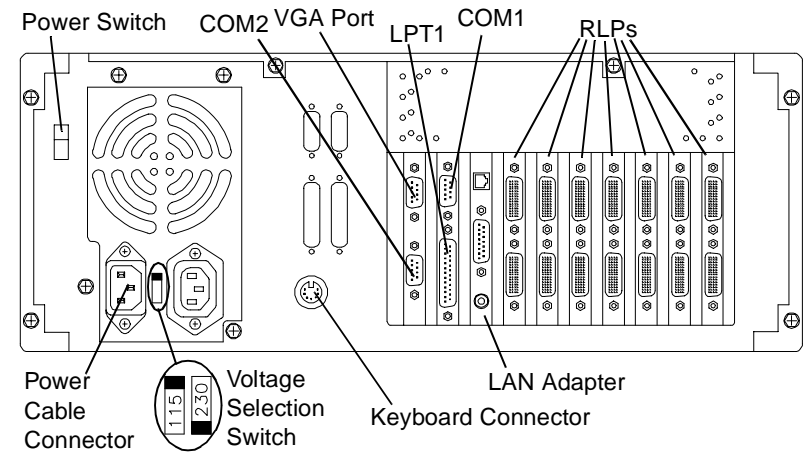
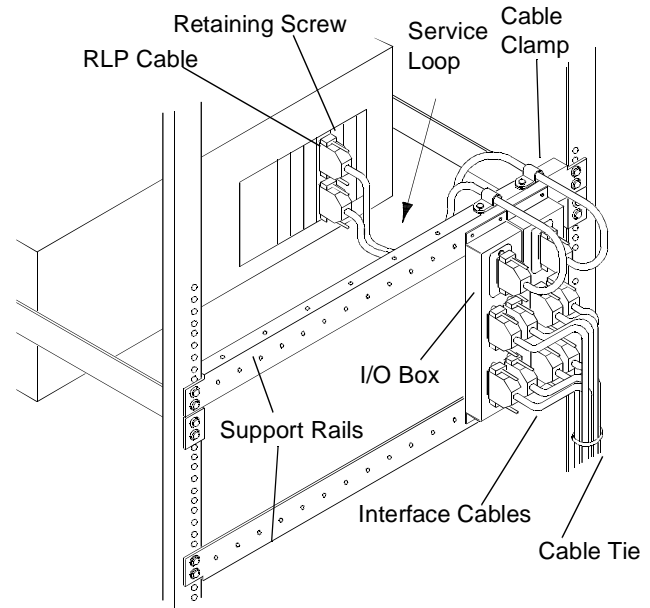

Figure 1 Rackmount Chassis, Rear View
Figure 3 Rack-Mounted I/O Boxes
2. Set up the equipment, noting the site requirements listed earlier in this chapter. Make sure the voltage selection switch (shown in Figure 1) is set correctly.
- Plug all cables into the appropriate connectors at the rear of the FRX6000, and tighten the retaining screws on each cable connector that has them. (It does not matter which end of an RLP cable plugs into the RLP.) Figure 1 shows the connectors on the rear of the chassis, and Figure 3 shows some cable retaining screws.
- Plug the RLP cables into their associated I/O boxes and tighten the retaining screws. If the assembly is being rack mounted, attach the I/O boxes and cables as shown in Figure 3, using the hardware provided.
1. If the terminal's speed is 9600 bps, go to step 11. If the speed is 1200, 2400, or 4800 bps, you must reconfigure the FRX6000 software, which requires a VGA monitor (and keyboard). Connect the monitor to the VGA port on the FRX6000 (see Figure 1) and plug the keyboard cable into the keyboard connector.
1. Connect the monitor to the VGA port on the FRX6000 (see Figure 1) and plug the keyboard cable into the keyboard connector.